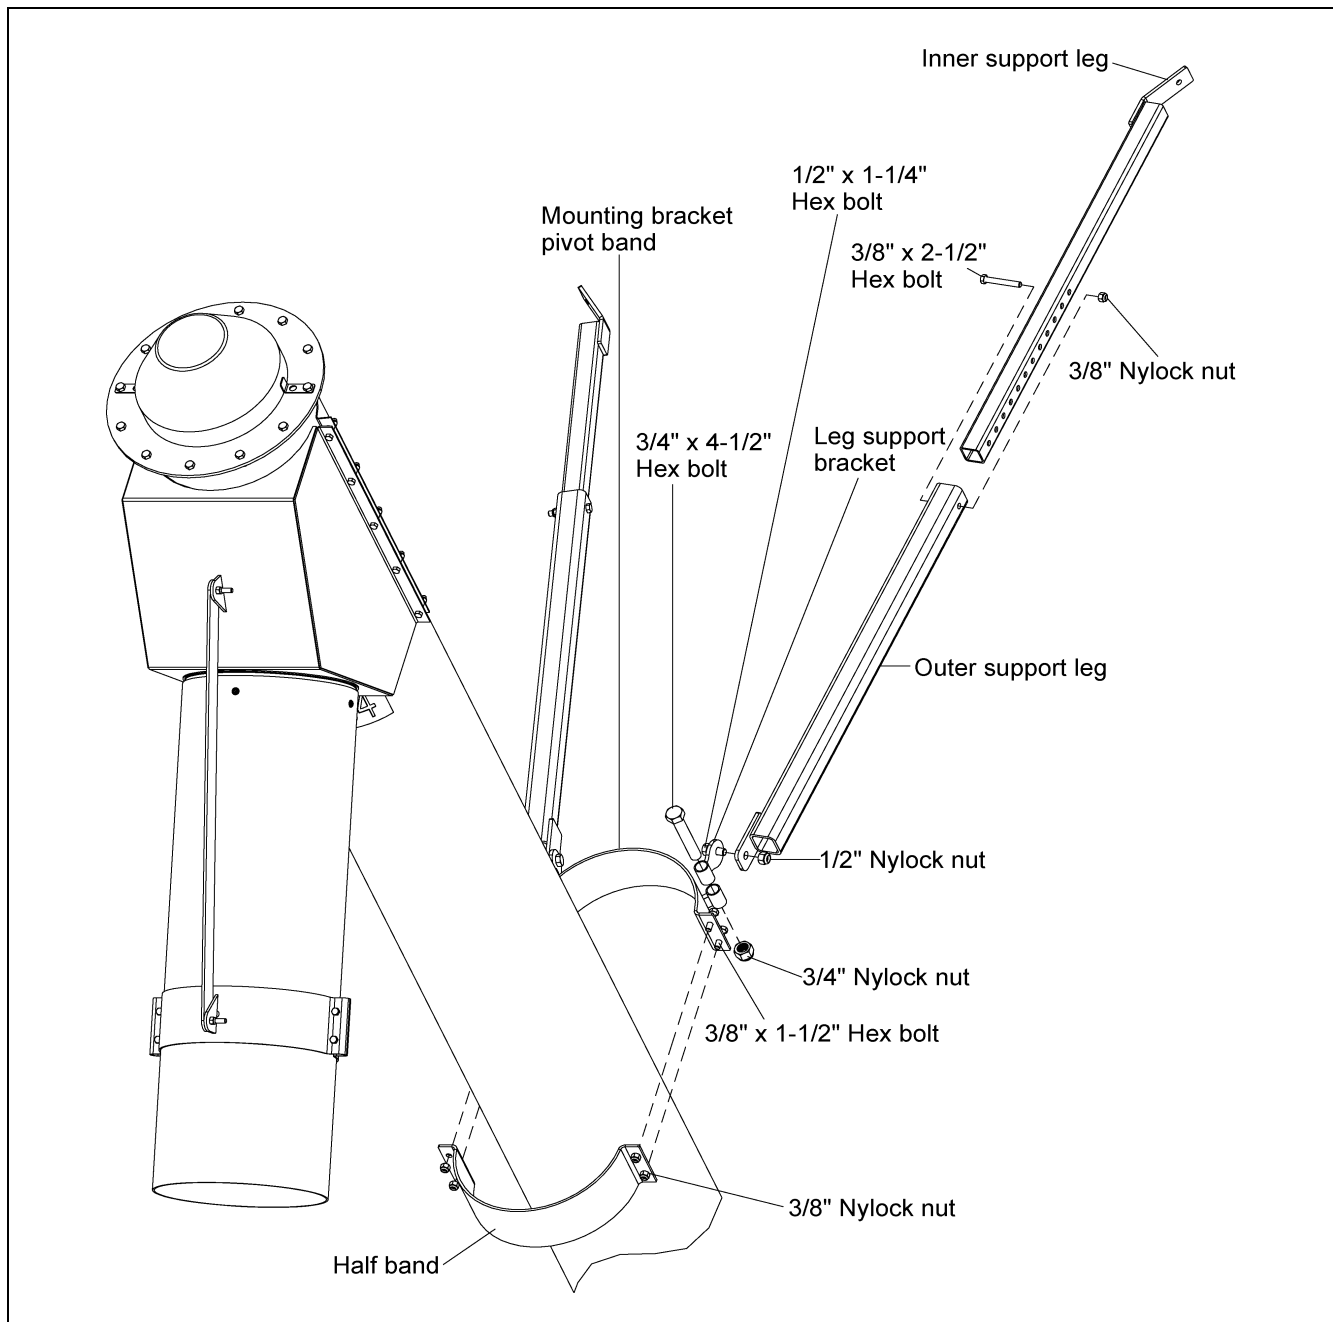

Figure 3C
- D. Attach the two (2) *leg support brackets* to the *mounting bracket pivot band* using two (2) $3/4" \times 4-1/2"$ hex bolts and nylock nuts.
- E. Attach the two (2) *outer support legs* to the *leg support brackets* using two (2) $1/2" \times 1-1/4"$ hex bolts and nylock nuts.
- F. Slide the two (2) *inner support legs* into the *outer legs* and temporarily secure with two (2) $3/8" \times 2-1/2"$ hex bolts and nylock nuts. (See Figure 3C.)